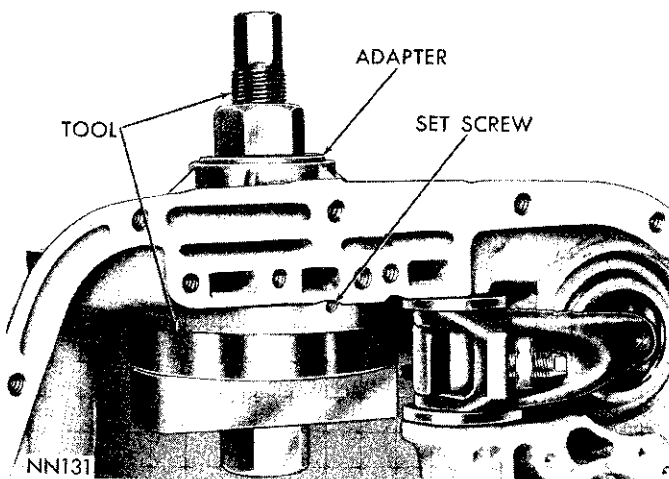

Fig. 68—Installing Overrunning Clutch Cam (A-727)
(4) Place spring retainer on the cam, making sure retainer lugs snap firmly into notches on the cam.
(5) Position cam in the case with cam serrations aligned with those in the case. Tap cam **evenly** into the case as far as possible with a soft mallet.
(6) Install Tool C-3863 and Adapter SP-5124 as shown in Figure 68, tighten nut on tool to seat cam into the case. Make sure cam is firmly bottomed, then install cam retaining set screw. Stake case around set screw to prevent it coming loose.